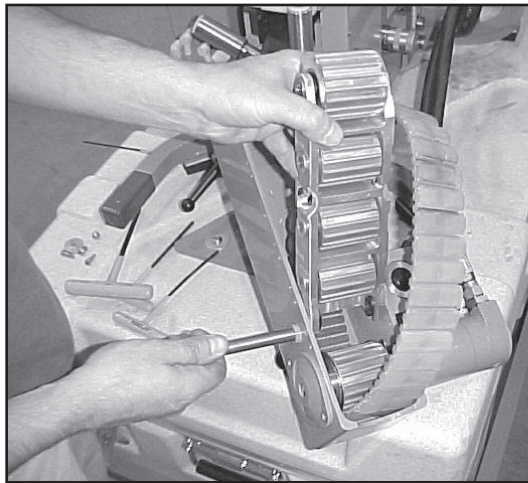

Figure 9
9. Remove idler pivot shaft and track idler assembly (Figure 9)